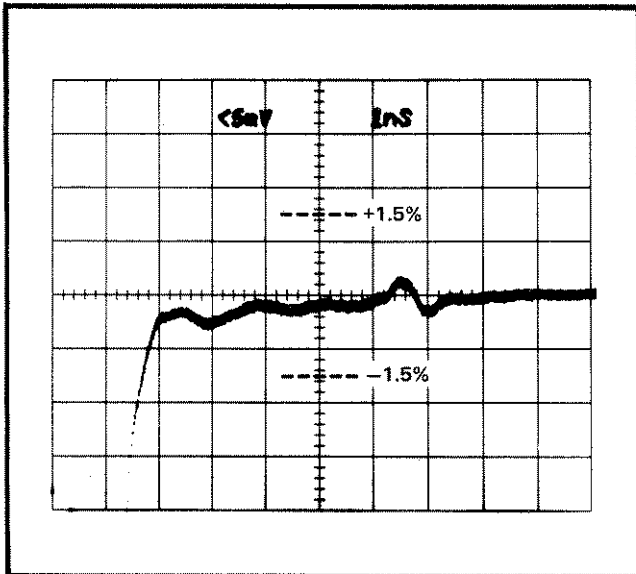

Fig. 5-4. PULSE OUTPUT aberrations.
- b. Use the 7S11 DC Offset control to position the top of the PULSE OUTPUT (at the leading edge) to the center of the graticule, and change the mVolts/Div to 5 mV. This sets the amplitude at 1% per division (see Fig. 5-4).
Total aberrations shown in Fig. 5-4 combine the aberrations of the Sampling Oscilloscope, coaxial connectors, cables, and the Type S-54. The large aberration shown between the graticule line 6 and 7 is a result of a coaxial connector reflection.